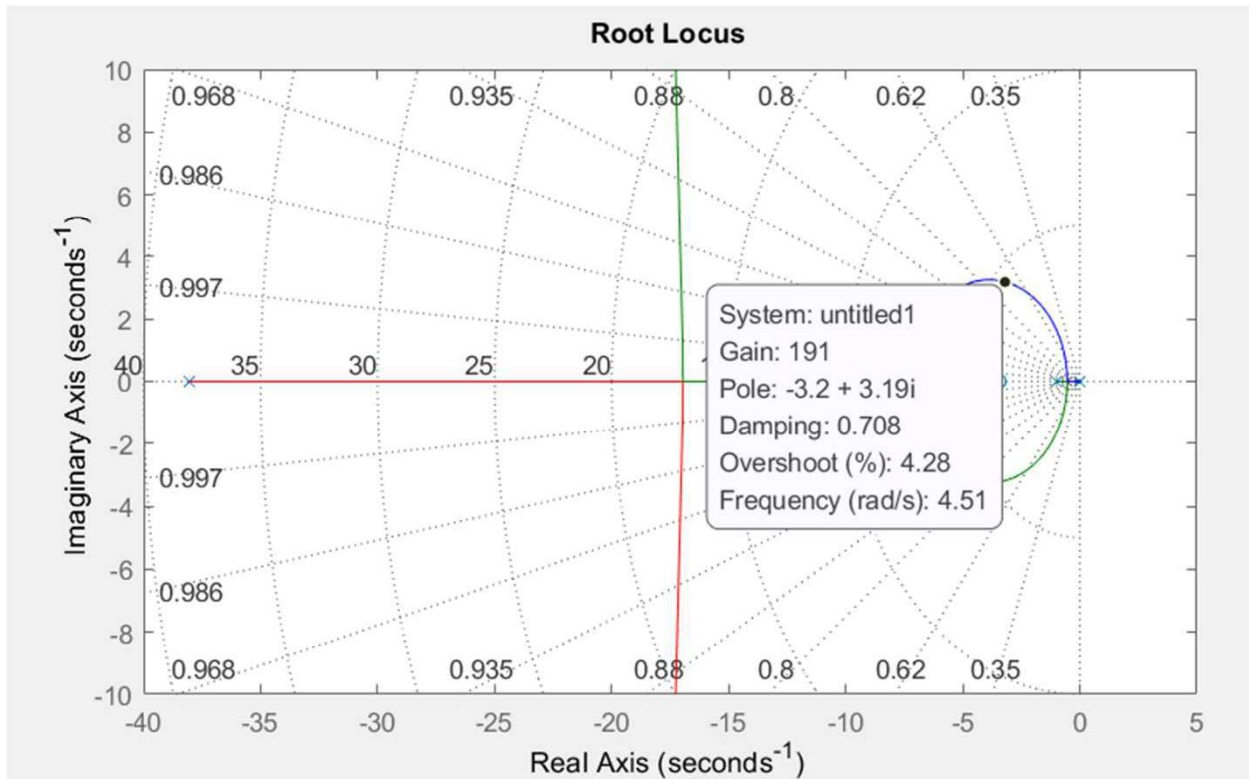

Fig.6, The root locus of designing compensator using method in page 3.
Thus, the compensator becomes  $D_c(s) = k \frac{s+3.49}{s+38.06}$ , at this moment, value  $k$  can be determined in the same way in equation (3). And the testing graph of this method is shown below in Fig.6.